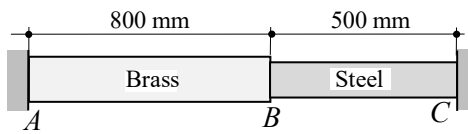

Figure 3
3. A brass rod of 30 mm diameter and 800 mm length is rigidly connected to a steel rod of 20 mm diameter and 500 mm length and fastened to rigid supports at the ends as shown in Fig. 3. The assembly is heated up from a room temperature of 27°C to 67°C . If $E_b = 90$ GPa, $E_s = 200$ GPa, $\alpha_b = 17 \times 10^{-6}/^\circ\text{C}$ and $\alpha_s = 12 \times 10^{-6}/^\circ\text{C}$, determine (a) the stresses developed in the two bars, and (b) the displacement of point B . [6]